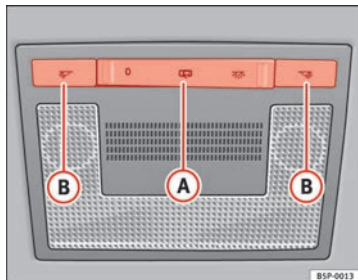

Fig. 77 Interior roof trim: front interior lighting
The switch ⇒ Fig. 77 (A) is used to select the following positions:
Push the switch to position O ⇒ Fig. 77.